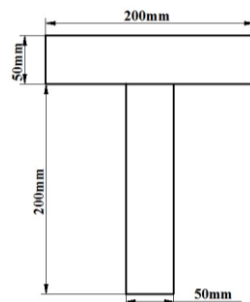

Figure 31
12. A T shaped cross section of a beam as shown in **Figure 31** is subjected to a vertical shear force of 100KN. Calculate the shear stress at the neutral axis and at the junction of the web and flange. M I about horizontal neutral axis is 0.000113m^4 .